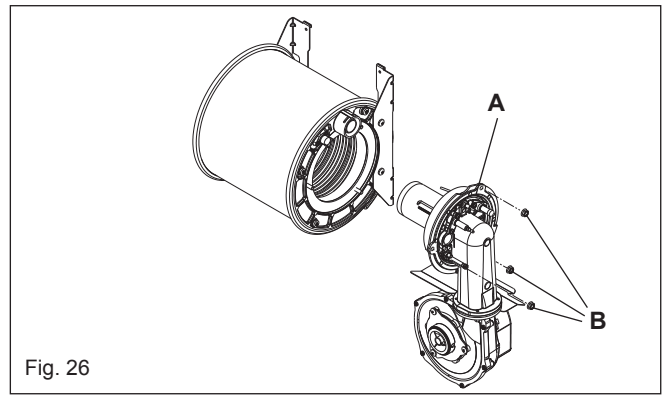

Fig. 26
Fig. 26: To remove the fan burner assembly (A) locate and remove the 3 external nuts (B). Replace in the reverse order. Ensure all seals are in good condition, taking care to ensure they are replaced correctly.